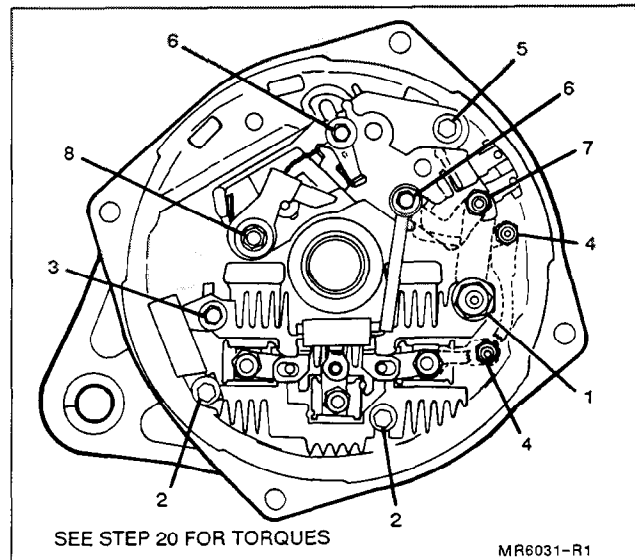

Figure 31. Fastener Tightening Order
20. Secure SRE component fasteners in following order (Fig. 31):